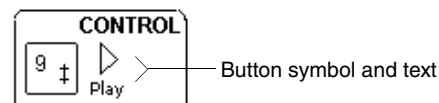

FIG. 9 Sample button symbol and text
6. Click the Save Program File button to save your changes. FIG. 9 shows a sample button symbol and text.